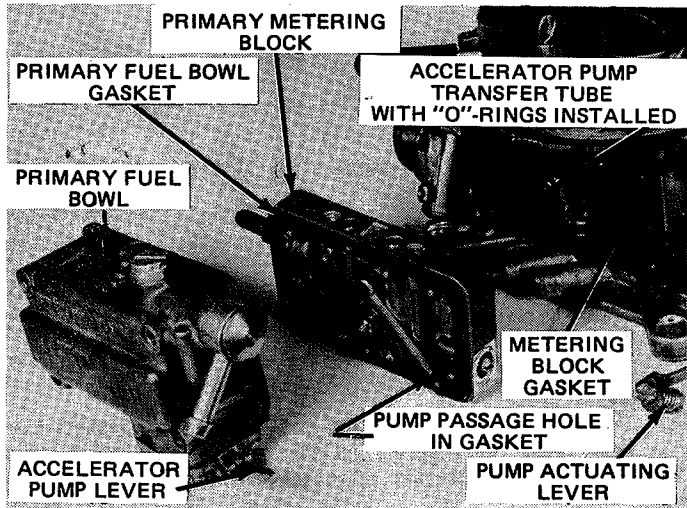

Fig. 4
- a. Remove the four (4) primary fuel bowl screws, the primary fuel bowl, metering block, and gaskets. See Figure 4.
- e. Reassemble primary metering block, fuel bowl and fuel bowl screws using new gaskets provided. Press gaskets firmly onto dowels, make sure that hole in fuel bowl gasket lines up with pump passage in metering block. See Figure 4. Make sure that the accelerator pump lever is underneath the pump actuating lever (See Figure 4) before tightening bowl screws. Torque fuel bowl screws evenly, in stages, to 25 to 30 in.lbs.
9. Install secondary metering body gasket. Press gasket firmly on metering body. Install fuel bowl gasket on face of metering body. On "double-pumper" models, make sure hole in gasket lines up with pump passage in metering block. See Figure 4.
11. Carefully slide secondary fuel bowl on fuel transfer tube and seat bowl on gasket. Install four (4) long bowl screws and new gaskets supplied in kit. Torque screws evenly, in stages, 25 to 30 in. lbs.